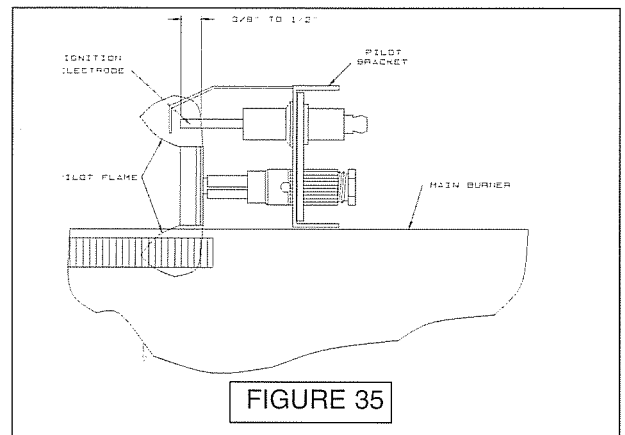

FIGURE 35
C. The pilot flame should envelop $\frac{3}{8}$ to $\frac{1}{2}$ inch of the tip of the pilot sensing device. See figure 35 on page 34.